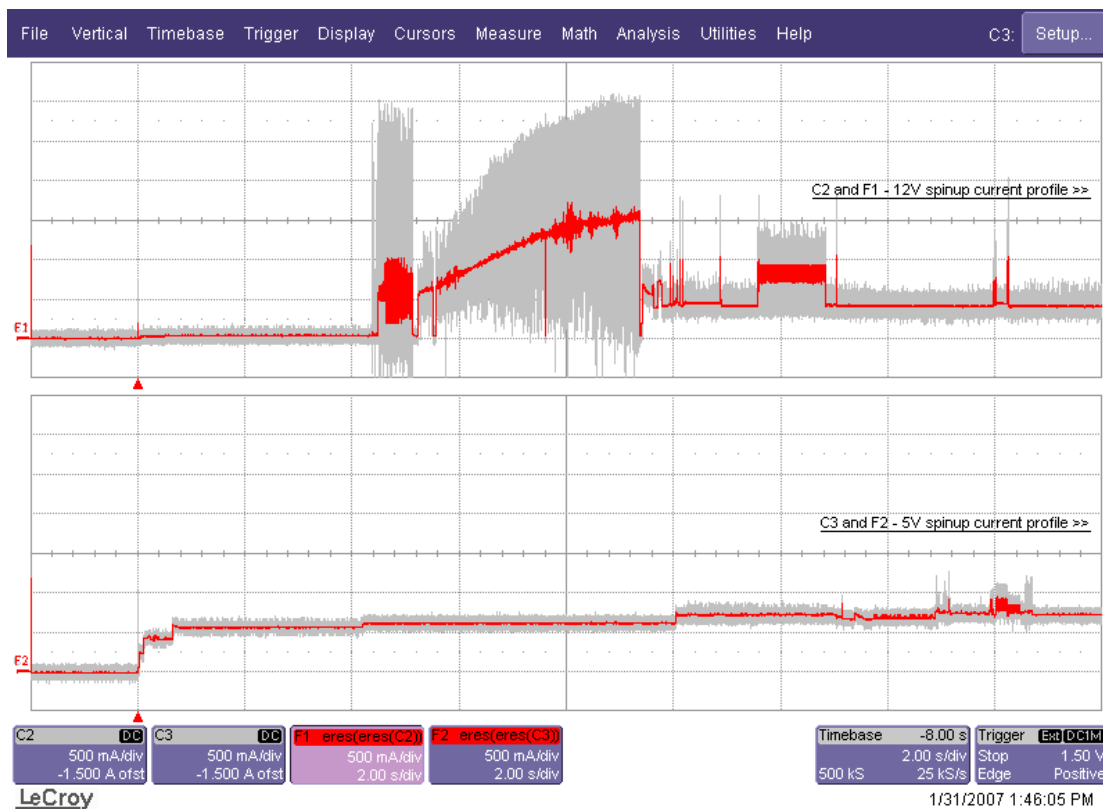

Figure 19. Typical ST3400755SS drive +5V and +12V current profiles
- [3] See +12V current profile in Figure 19.
The +12V and +5V current profiles are shown below in figure 19.